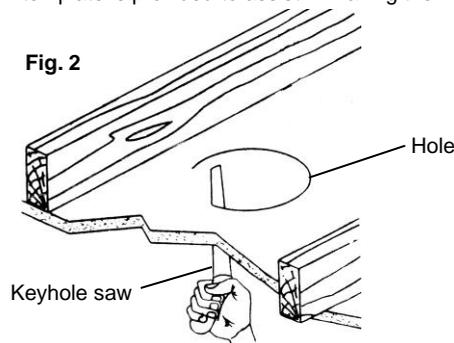

Fig. 2
1. Cut a 5 1/2" (14,0 cm) hole into the ceiling after choosing the appropriate location. A template is provided to assist in making the hole. (Fig. 2)